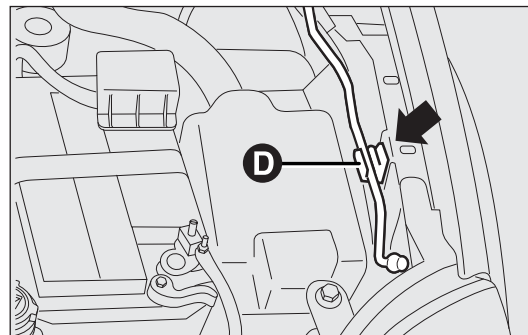
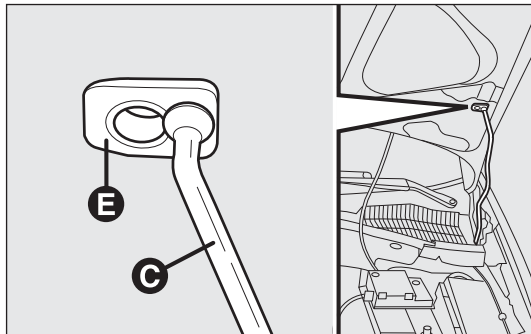

fig. 110
fig. 111
- lift the bonnet and, at the same time, release the bonnet support rod from its locking device D-fig. 110; then insert the end of the bonnet support rod C-fig. 111 into the hole E.
- ❑ hold the bonnet up with one hand and with the other remove the rod C-fig. 111 from the hole E and fit it back into its catch D-fig. 110;